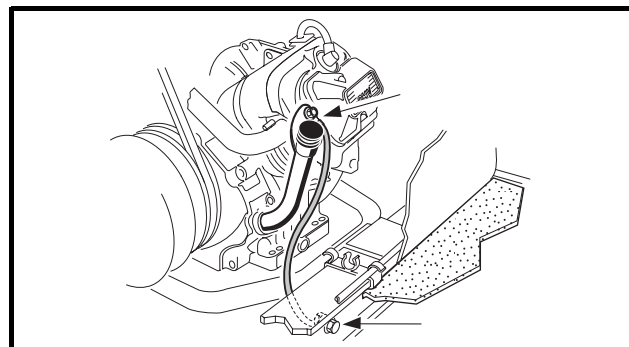

Figure 12-6 Engine Ground Cable Test
- Place the red (+) probe of the multimeter on the ground cable terminal end located on the oil filler bracket on the engine (**Figure 12-6, Page 12-12**). Place the black (–) probe on the vehicle frame. The reading should be continuity. If the reading is incorrect, clean and tighten cable connections. If the connections are good and the reading is incorrect, repair or replace the cable.